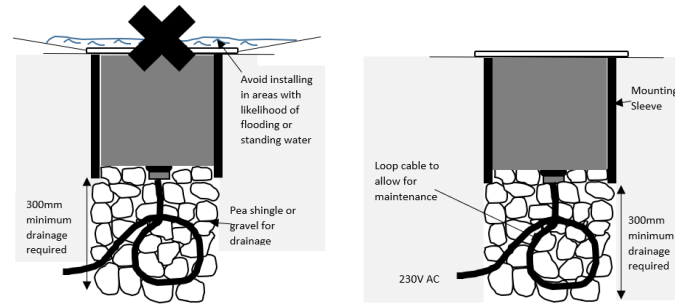

Fig. 2
- We recommend not installing in areas where there is a high risk of flooding or areas where water may sit on top of the fitting (see Fig. 2)
- Ensure a minimum of 300mm of drainage is put below the luminaire (see Fig. 2)